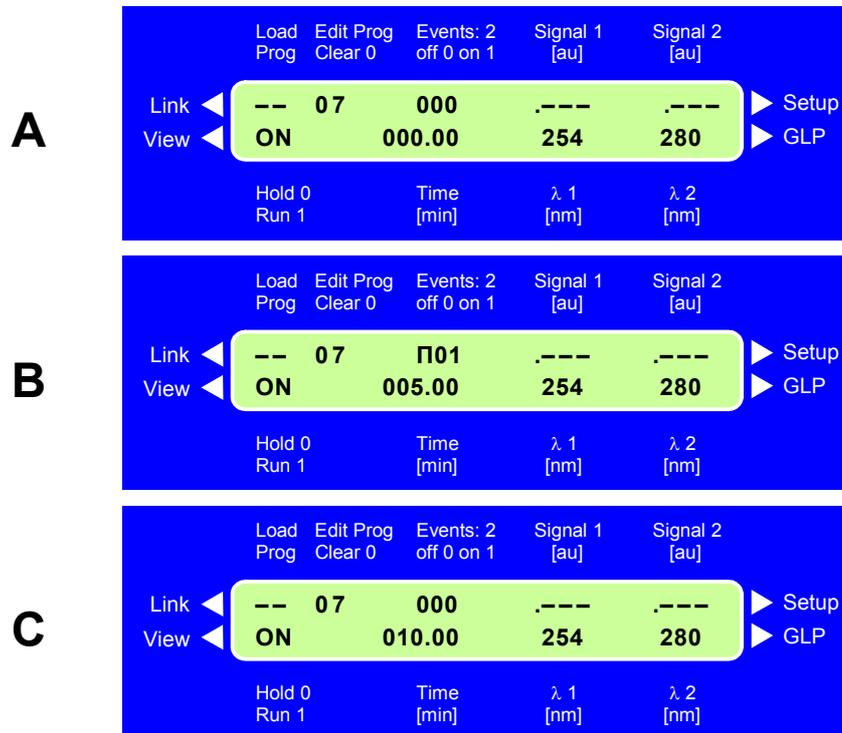

Fig. 28 Program lines for program no. 7 (example)
- 7) Now program number 07 can be created. For this the desired wavelengths (here: 254 nm and 280 nm) for time 000.00 min are entered. The display should now resemble **section A** in Fig. 28.